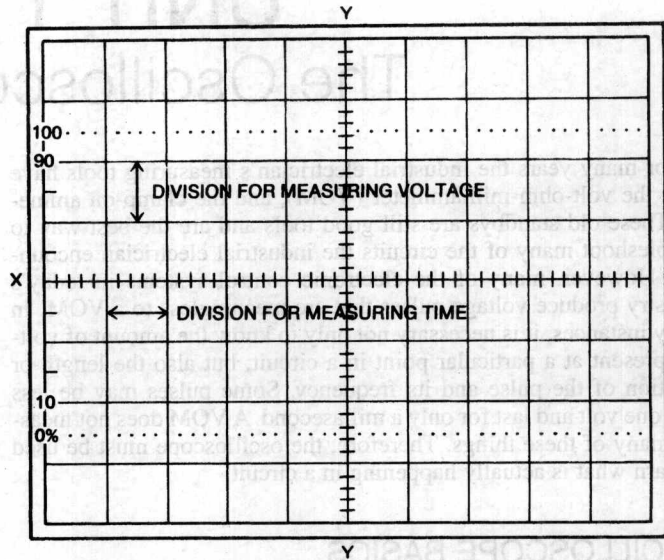
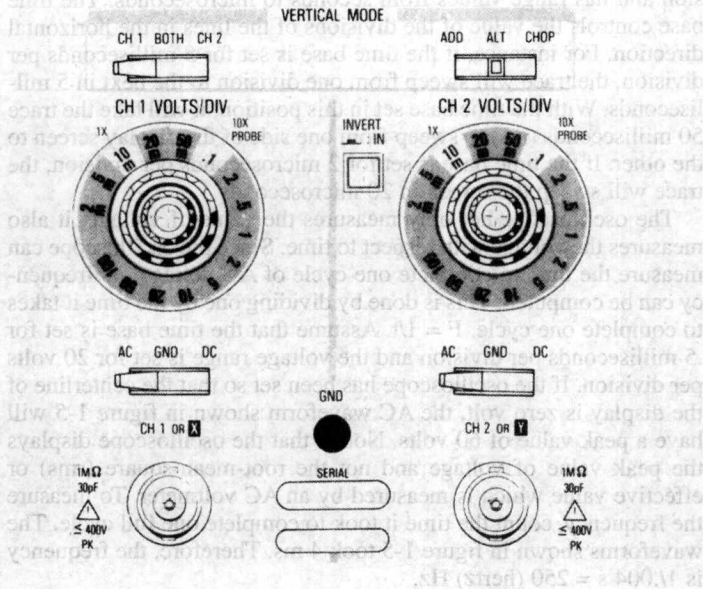

Figure 1-1 Display of oscilloscope. Copyright © Tektronix, Inc.
Figure 1-2 Voltage range control.
The oscilloscope is divided into two main sections. One section is the voltage section and the other is the time base. The display of the oscilloscope is divided by vertical and horizontal lines, figure 1-1. Voltage is measured on the vertical or Y axis of the display and time is measured on the horizontal or X axis of the display.
The oscilloscope also has a voltage range switch, figure 1-2. The voltage range switch on an oscilloscope selects volts per division instead of volts full scale. For instance, the voltage range switch shown in figure 1-2 is set for 10 millivolts (mv) at the 1X position. This means that each of the lines in the vertical direction (the Y axis) of the display, figure 1-1, has a value of 10 millivolts per division. Assume the oscilloscope has been adjusted to 0 volt on the centerline of the display. The probe is then removed from ground and connected to the circuit to be tested. If the trace rises above the centerline, the voltage is positive with respect to ground. If the trace drops below the centerline, the voltage is negative with respect to ground. If the oscilloscope probe is connected to a positive voltage of 30 millivolts, the trace rises to the position marked (A) in figure 1-3.